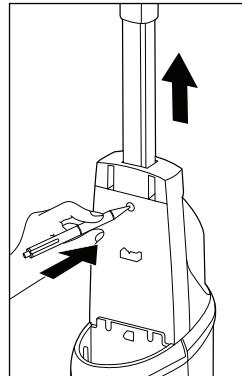

Fig. 2
- If you want to remove the hand element ① from the appliance, you must first remove the fresh water tank ⑩ from the appliance to reach the catch of the hand element ① (see section **Filling the fresh water tank**). Once you have removed the fresh water tank ⑩, press the catch on the hand element ① out of the catch opening with a pointed object. You can then pull the hand element ① back out of the appliance (see fig. 2).